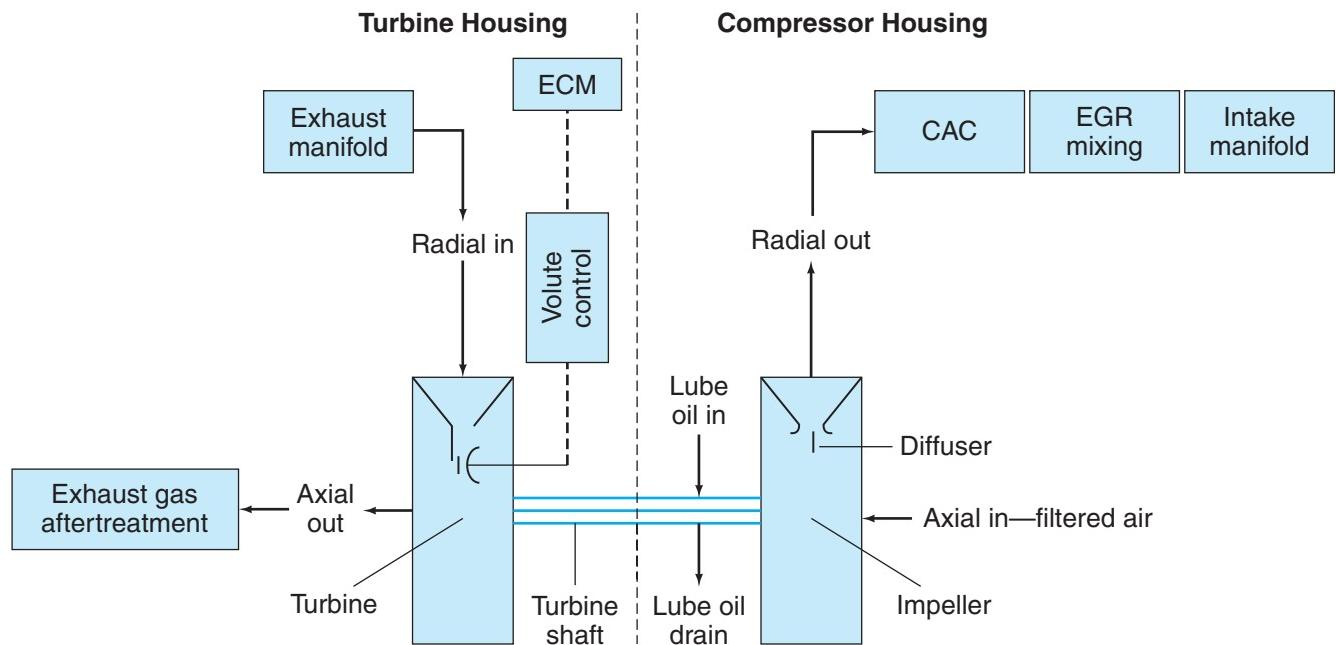

Figure 9-4 Turbocharger gas flow schematic indicating the roles played by the volute and diffuser.
The role of the volute should be understood. The smaller the volute size, the greater the restriction to exhaust gas flow. However, the smaller the volute, the greater the gas expansion as this gas exits to act on the turbine. The best arrangement is to be able to control the volute flow area, which we will look at next. **Figure 9-4** shows turbocharger gas flow. In the schematic you can see the key roles played by the volute and diffuser: note how gas flow enters and exits the turbine and compressor housings.
Constant Geometry Turbos. Constant geometry (CG) turbos are designed to produce their best performance at a specific rpm and engine load. They are not versatile. This limits their output. Highway engines that used CG turbos were usually spec'd to produce peak efficiency under full load and at peak torque rpm. This meant that whenever the engine was operated outside that specified point, a performance shortfall would result. An advantage of CG turbos is that they are simple, so there is little that can go wrong. **Figure 9-4** shows a typical CG turbocharger.